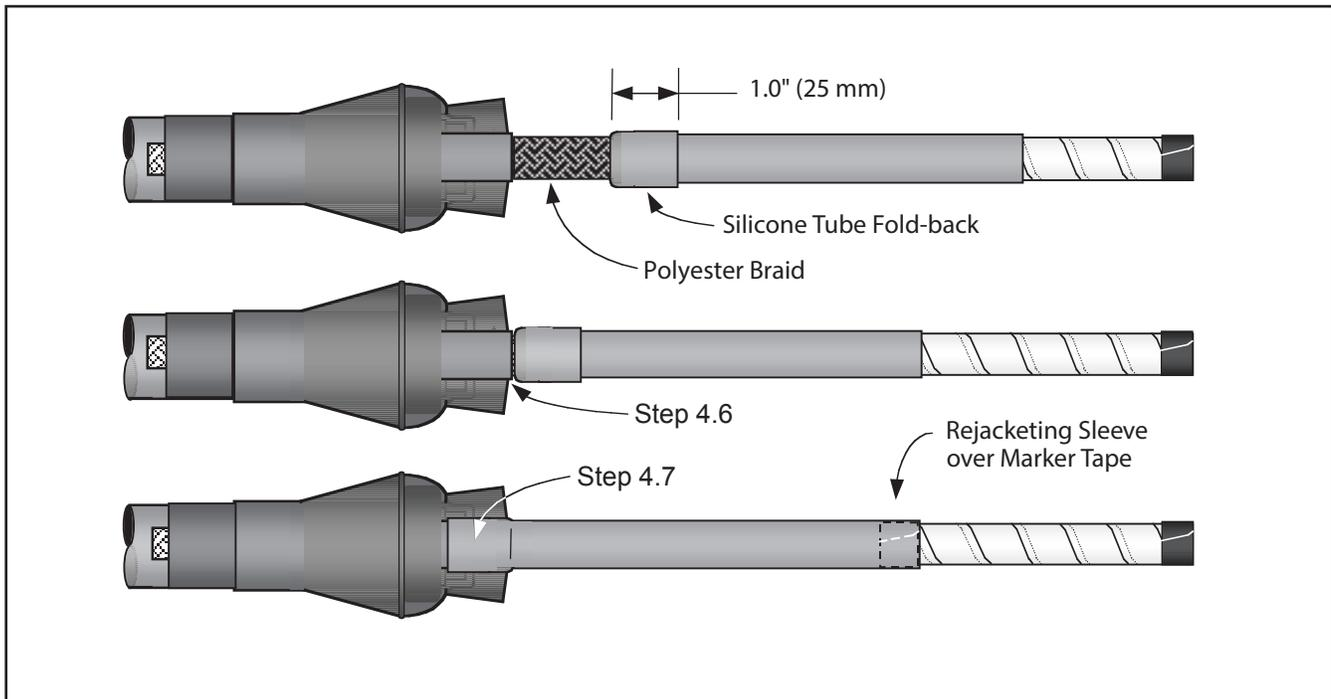

Figure 17
4.6 Slide re-jacketing sleeve until inner polyester braid is adjacent to breakout boot finger (*Figure 17*).
4.7 Fold outer silicone tubing back on itself for 1.0" (25 mm) (*Figure 17*) and trim off exposed polyester braid.
4.8 Slide re-jacketing sleeve assembly down until folded tube contacts edge of breakout boot finger (*Figure 17*).
4.9 Pull folded silicone tube section down onto breakout boot finger (*Figure 17*).
**Note:** Re-jacketing tube end should align with upper edge of installed marker tape (*Figure 17*). Minor tube adjustments can be made as needed.